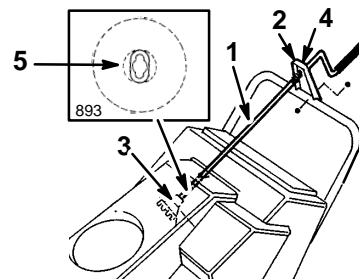

Figure 6
- Insert the flattened end of the chute crank through the hole in the shroud while aligning the mounting bracket with the holes in the lower handle (Fig. 6).
- Slowly rotate the crank until the flattened end fits into the hidden gear opening and the chute ring turns with the crank (Fig. 6).
- Fully insert the plastic bushing into the hole in the mounting bracket (Fig. 6).
- Secure the mounting bracket to the handle with two capscrews and locknuts (Fig. 6).